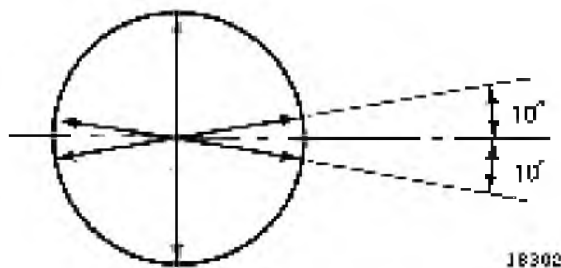

Fig. 1-6 - Main Bearing Bore Measurement
5. Check that the main bearing bore dimensions are within the minimum and maximum limits. Take two sets of measurements at each bore, one set 12.70 mm (1/2") in from the accessory end of the bore and one set 12.70 mm (1/2") in from the generator end of the bore at points shown in Fig. 1-6.
Main bearing bore with all caps applied and torqued to 1 017 N-m (750 ft-lbs). Take two sets of main bearing bore measurements at each bore, one set 12.70 mm (1/2") in from the accessory end of the bore and one set 12.70 mm (1/2") in from the generator end of the bore. Ref. Fig. 1-6.